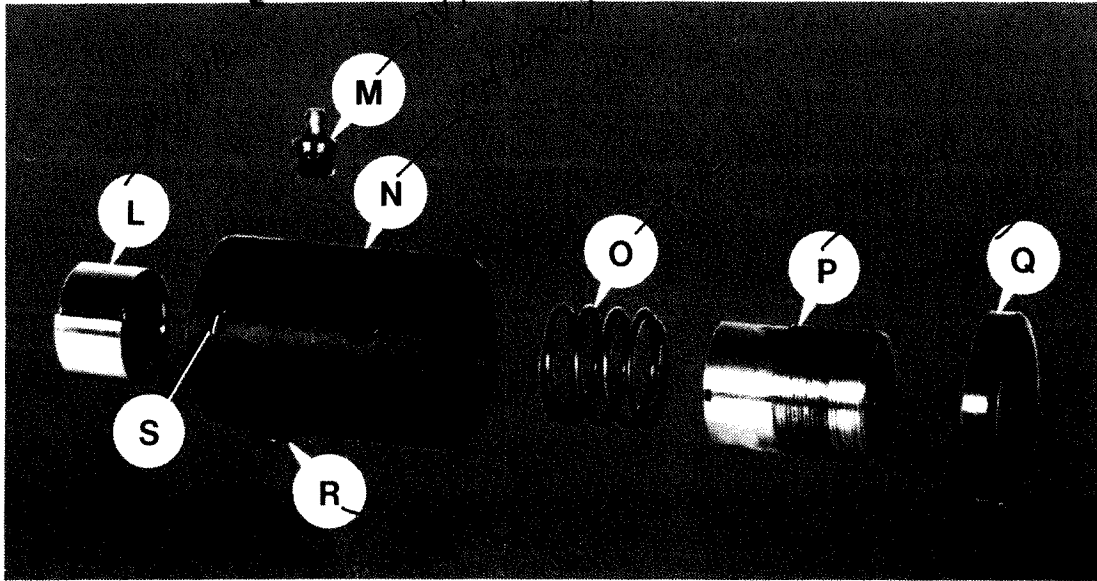

Figure 3.20 - Speed Change Feed Screw Nut
To facilitate proper adjustment, feed screw nut "O", Figure 3.3, can be rotated 180° by interchanging grease fitting "M" and pipe plug "R", Figure 3.20 .
Half nut "L", Figure 3.20, is spring loaded. Hold half nut "L" in place within nut body "N" while the feed screw nut is removed.
5. Remove half nut "L", Figure 3.20 .
Grease fitting "M" can be interchanged with plug "R", Figure 3.20, for adjustment purposes during reassembly.
7. Install spring "O" and half nut "P" in nut body "N", Figure 3.20 .
Hold loose half nut "L" flush with the top of nut body "N" while threading feed screw nut "O", Figure 3.3, onto the vertical feed screw. When the threads inside half nut "L", Figure 3.20, engage the feed screw, half nut "L" may be released.